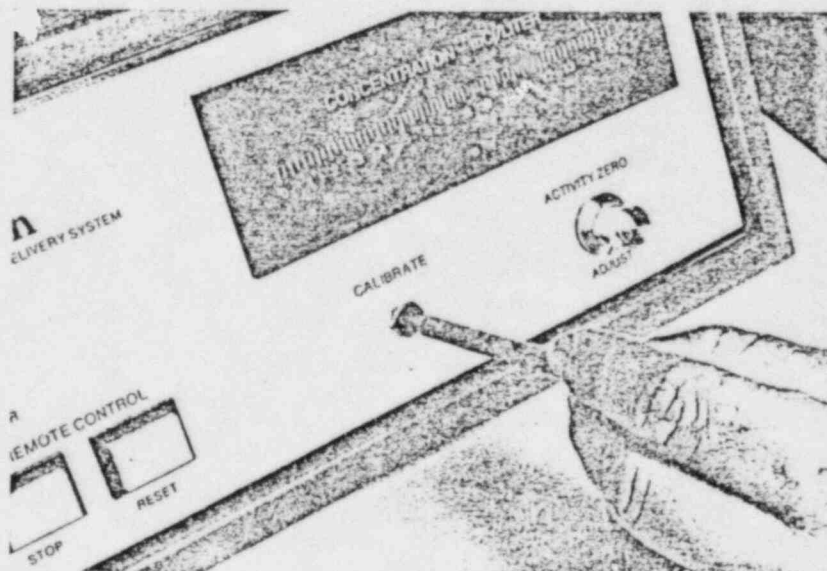

Figure 16. Calibrating the concentration meter with screw adjustment of the calibrate potentiometer.
5.3.1.5 With a small screwdriver, adjust the calibration potentiometer so that the meter reads 3 mCi/Liter. (See Figure 16.)